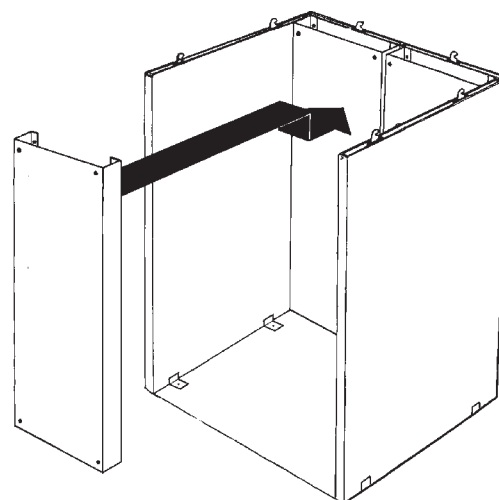

Fig. 5 Air ducts
14. Lift in the rear air ducts and hang them up on the profiles at the backside (fig 5).